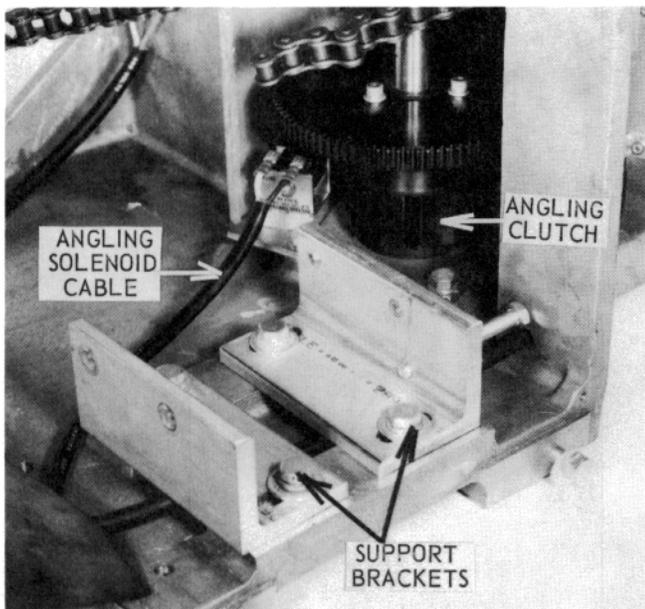

Figure 73 – Angling Solenoid Cable, Angling Clutch, and Speed Reducer Brackets
- 6.1.9 Remove the angling solenoid cable and speed reducer brackets to get to the angling clutch (see Figure 73).